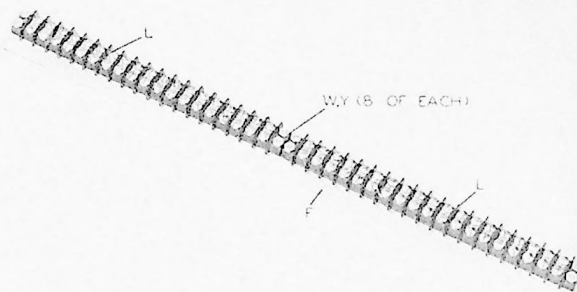

Figure 2-2. 499G-1 Rack Mounting Shelf,
2.2.3.3 TERMINAL STRIP ASSEMBLY. (See figure 2-2.) The terminal strips, item L, must be mounted on metal strip, item F, before they are ready for final assembly onto the shelf.